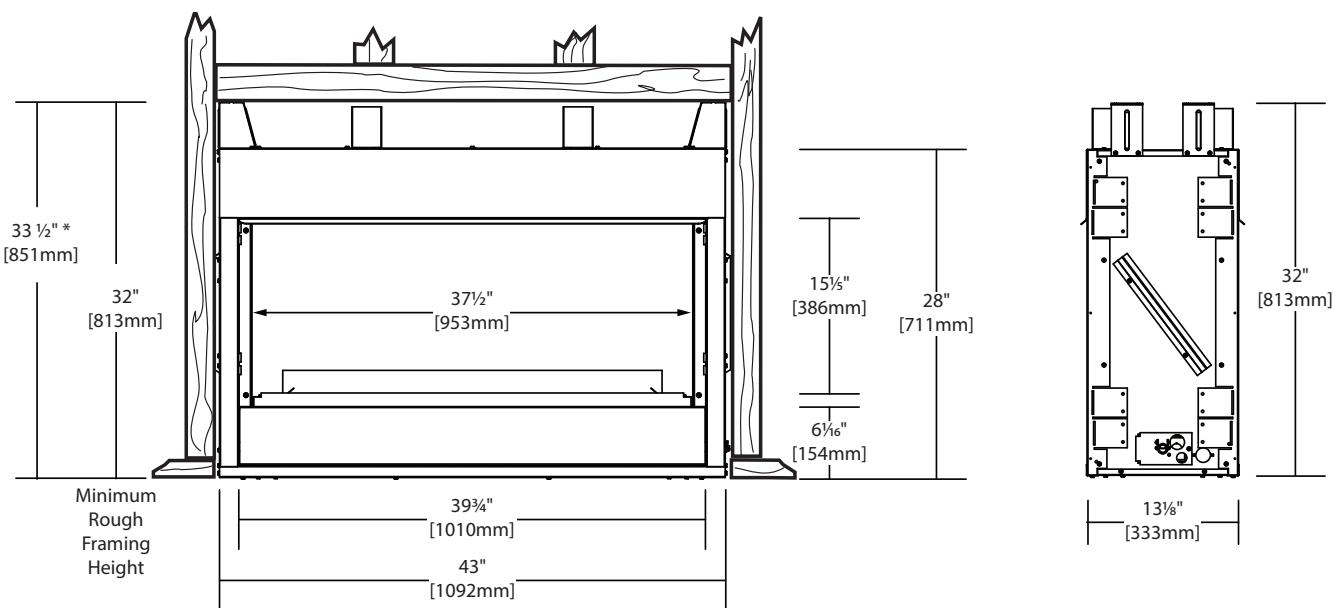
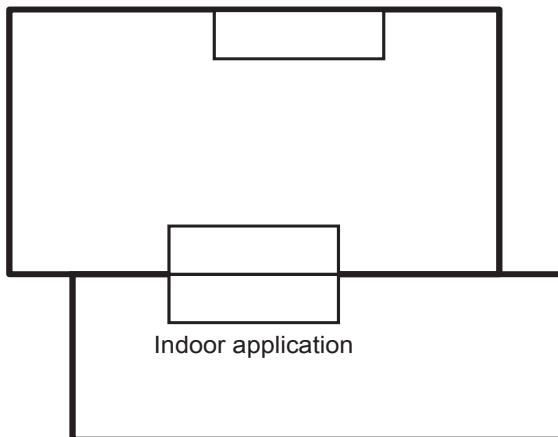
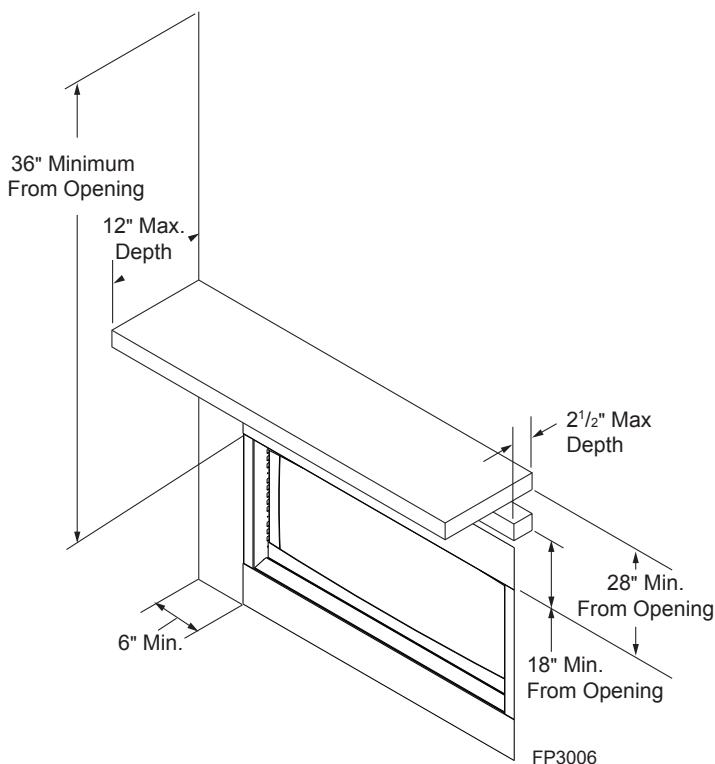

Figure 2. Fireplace dimensions
Figure 5. Possible Fireplace Locations
Figure 6. Sidewall and Ceiling Clearances
1. Position fireplace in desired location. Refer to the Fireplace and Framing Dimensions (page 7, Figures 2 and 3,) Fireplace Location (page 9, Figure 5) and Clearances and Height Requirements (page 10, Figures 6 and 7.)
- Minimize modifications to existing construction. Refer to Figure 5 below for location suggestions.
Ensure that minimum clearances shown in Figures 6 and 7 are maintained. Left and right clearances are determined when facing the front of the firebox.
Sidewall Clearances — The clearance from the inside of the appliance to any combustible adjacent wall should not be less than 6". Figure 6
Ceiling Clearance — The ceiling must be at least 36" from the firebox opening. Figure 6
The dimensions shown in Figures 6 and 7 are minimum clearances to maintain when installing this heater. Left and right clearances are determined when facing the front of the heater.
Mantel clearances — Must meet the clearance requirements detailed in Figures 6 and 7.